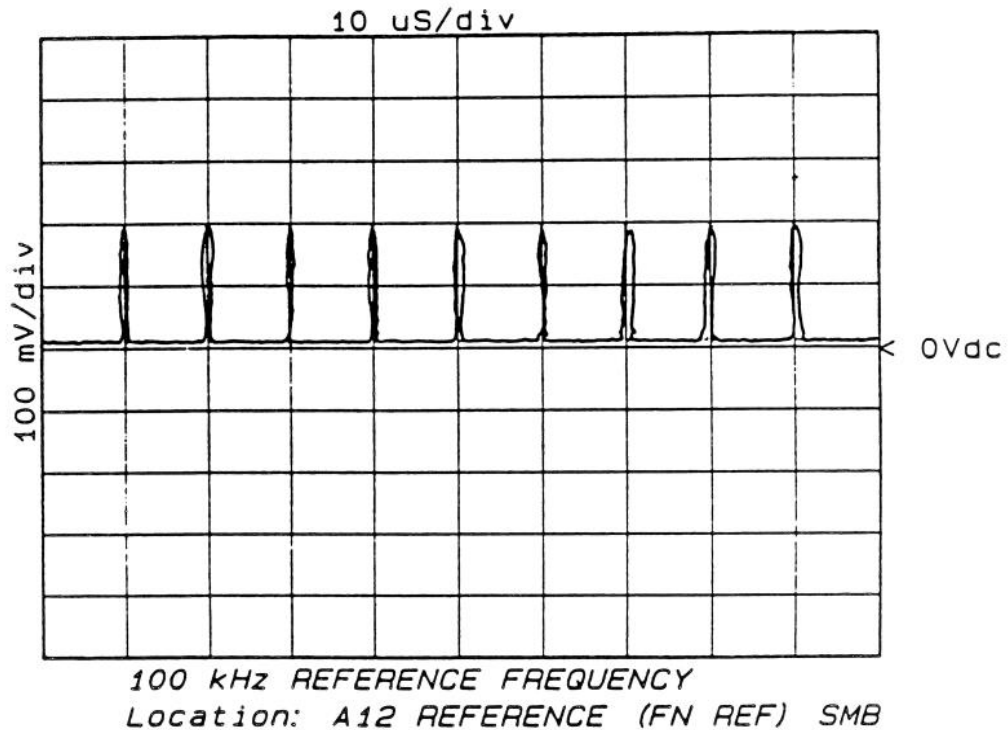

Figure 23. 100 kHz Reference
7. Refer to Table 4 to verify a major portion of the A12 reference assembly frequencies used by the source functional group. Figures 23 and 24 illustrate some typical plots.